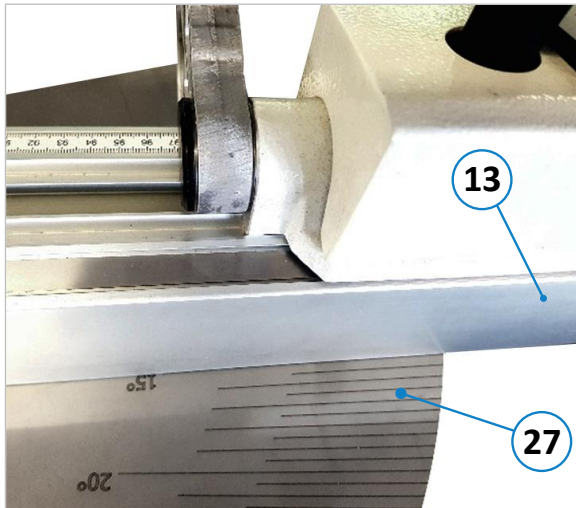

Figure 29: Set angular cuts
- Move the cross-cut fence (**13**) to the 15° marking on the plate (**27**) (see ⇒ Figure 29).